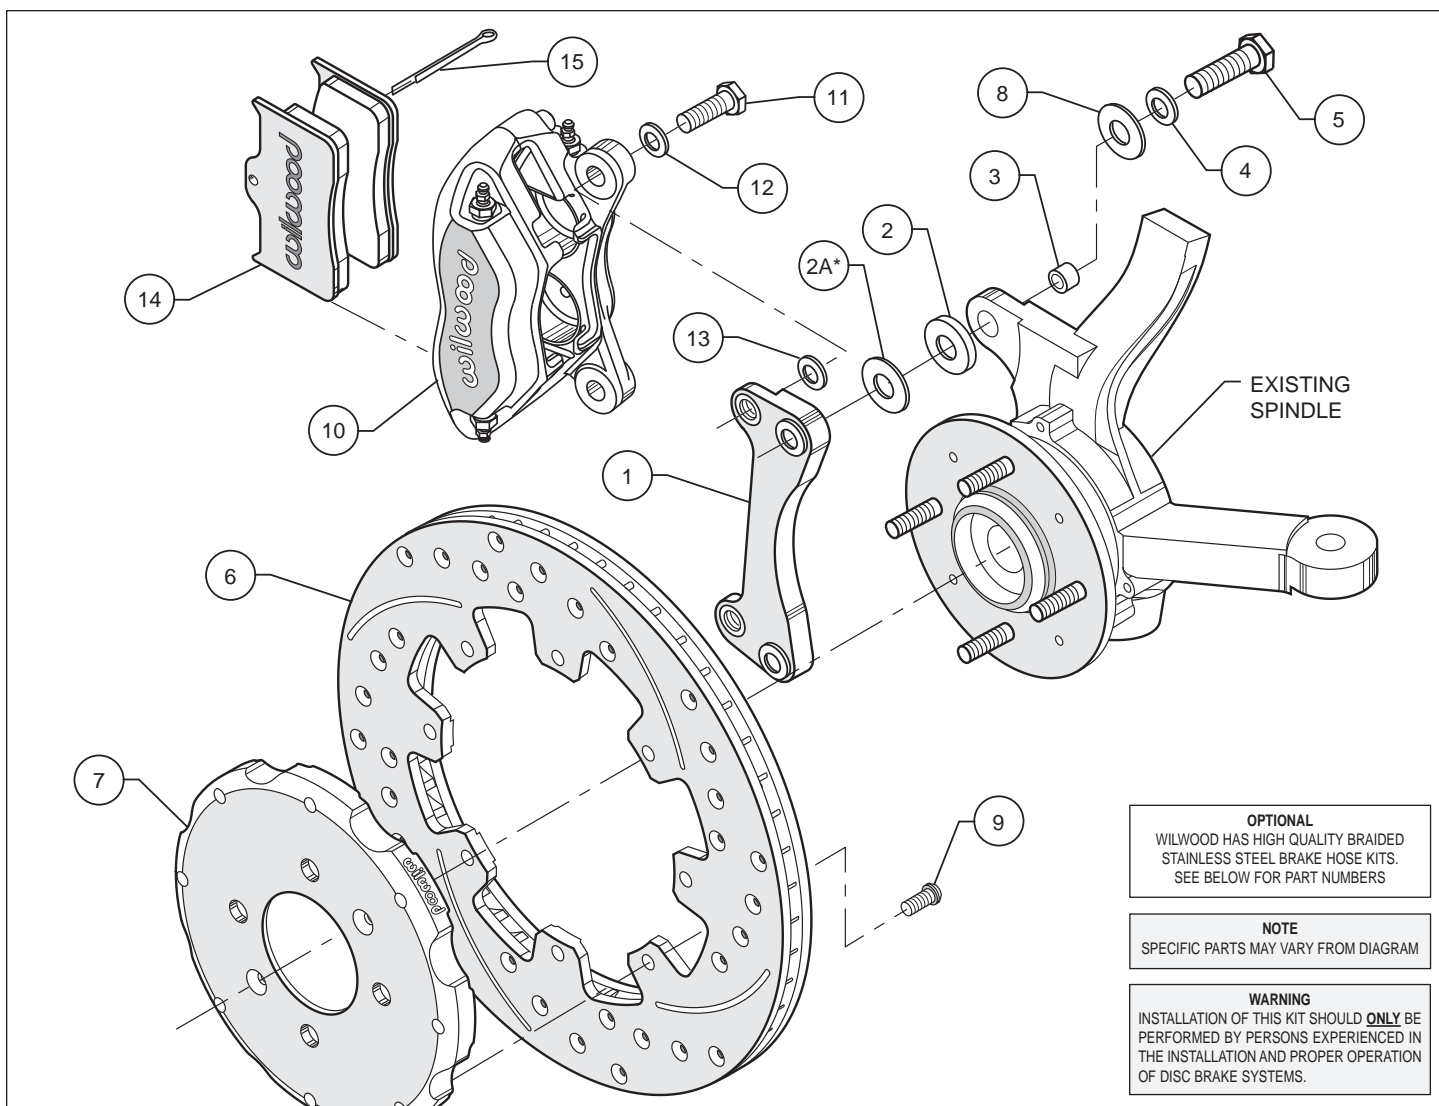

Figure 1. Typical Installation Configuration, Left Hand Application Shown
- Insert one sleeve (3) each into the holes on the top and bottom of the spindle “ears” where the OEM caliper bracket was removed. Apply red *Loctite*® 271 to the mounting bolt threads (5) before installation of the caliper mounting bracket (1). Install the bracket with the flanged heads of the clinch nuts facing outboard, as shown in Figure 1. Slide bolt (5) through washer (4) and shim (8) into the previously installed sleeve (3) from the backside of the spindle. Position .125 thick spacer (2) [and (2A) for 2001 Honda Civic only] between the spindle and the bracket. Torque bolts to 60 ft-lb.
- With the larger I.D. side of the rotor (6) facing away from the hat (7), attach rotor (6) to hat (7) using bolts (9) as shown in Figure 1. Using an alternating sequence, remove bolts (9) one at a time, apply red *Loctite*® 271 to the threads, and torque to 25 ft-lb.